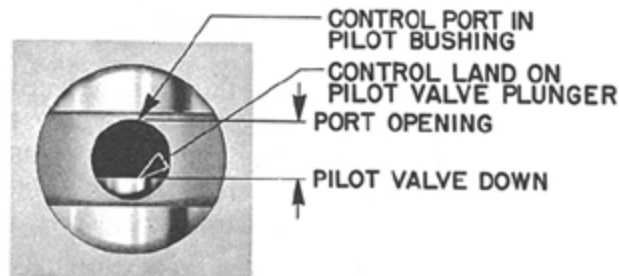

Figure 4-6. Port Opening, Pilot Valve Plunger Down
- b. Push the pilot-valve plunger down as far as possible—this will move the flyweights to inner position. Through the pipe plug hole, check the amount of port opening above the edge of the pilot-valve plunger control land (see Figure 4-6).